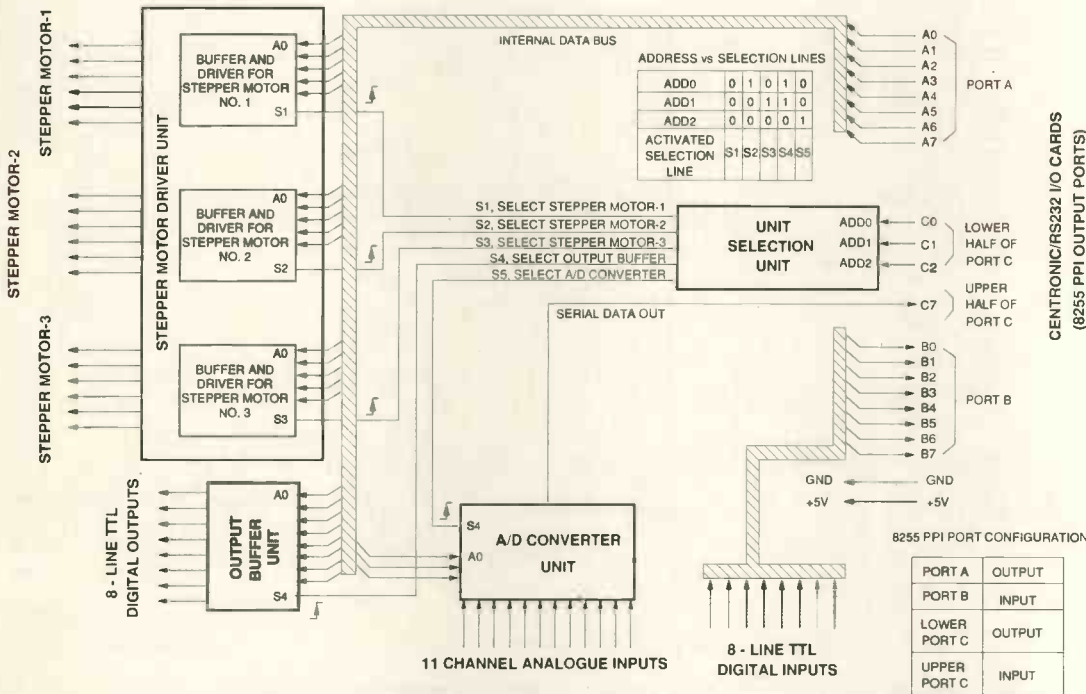

Fig. 1. Stepper motor driver modules, combined, provide control for three motors plus 11 analogue monitoring channels and eight digital outputs.
Four blocks make up the stepper driver system – a stepper motor unit incorporating three separate drivers, a data i/o unit, an a-to-d converter unit and a buffer selector. Figure 1.
produces a miniature scope. The 'scope can then be expanded as shown in Fig. 1. Both channels of the 'scope are updated during the simulation process and have independent gain controls with a common time-base. The instrument can also display Lissajous figures from the two channel inputs.
*Fig. 1. Blow-up of the oscilloscope showing the output of a the d-to-a converter when fed with the outputs of two cascaded generic counters – the effects of the propagation delays are clearly present.*